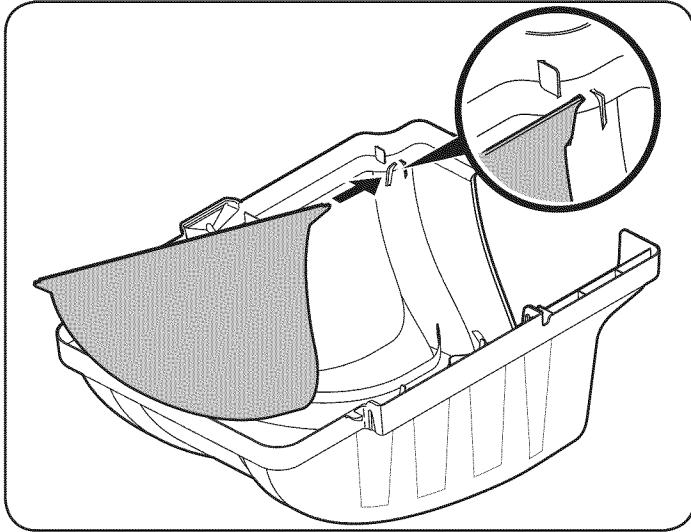
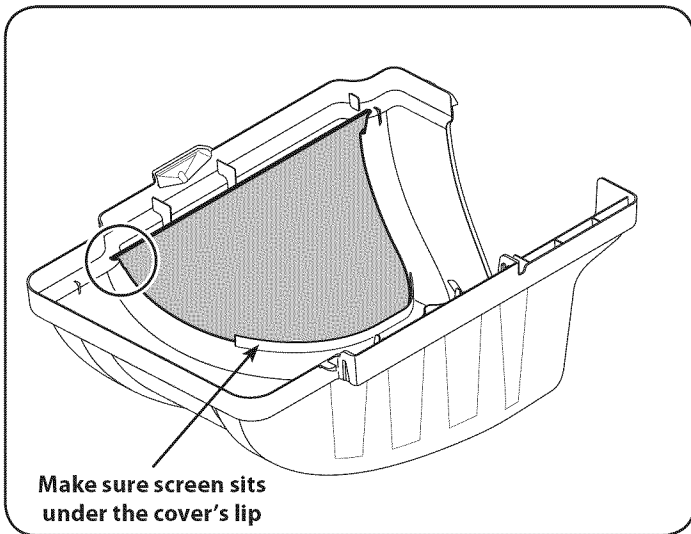

Figure 11
Figure 12
3. Install the grass catcher cover screen into the bagger cover by first inserting the end closest to the side with the cutout into the mounting hole, as in Fig. 11. Make sure to feed the screen under the lip, as in Fig. 12.
4. Clip in the other side by flexing the screen and pushing it down into the provided cutout hole. See Fig. 12.